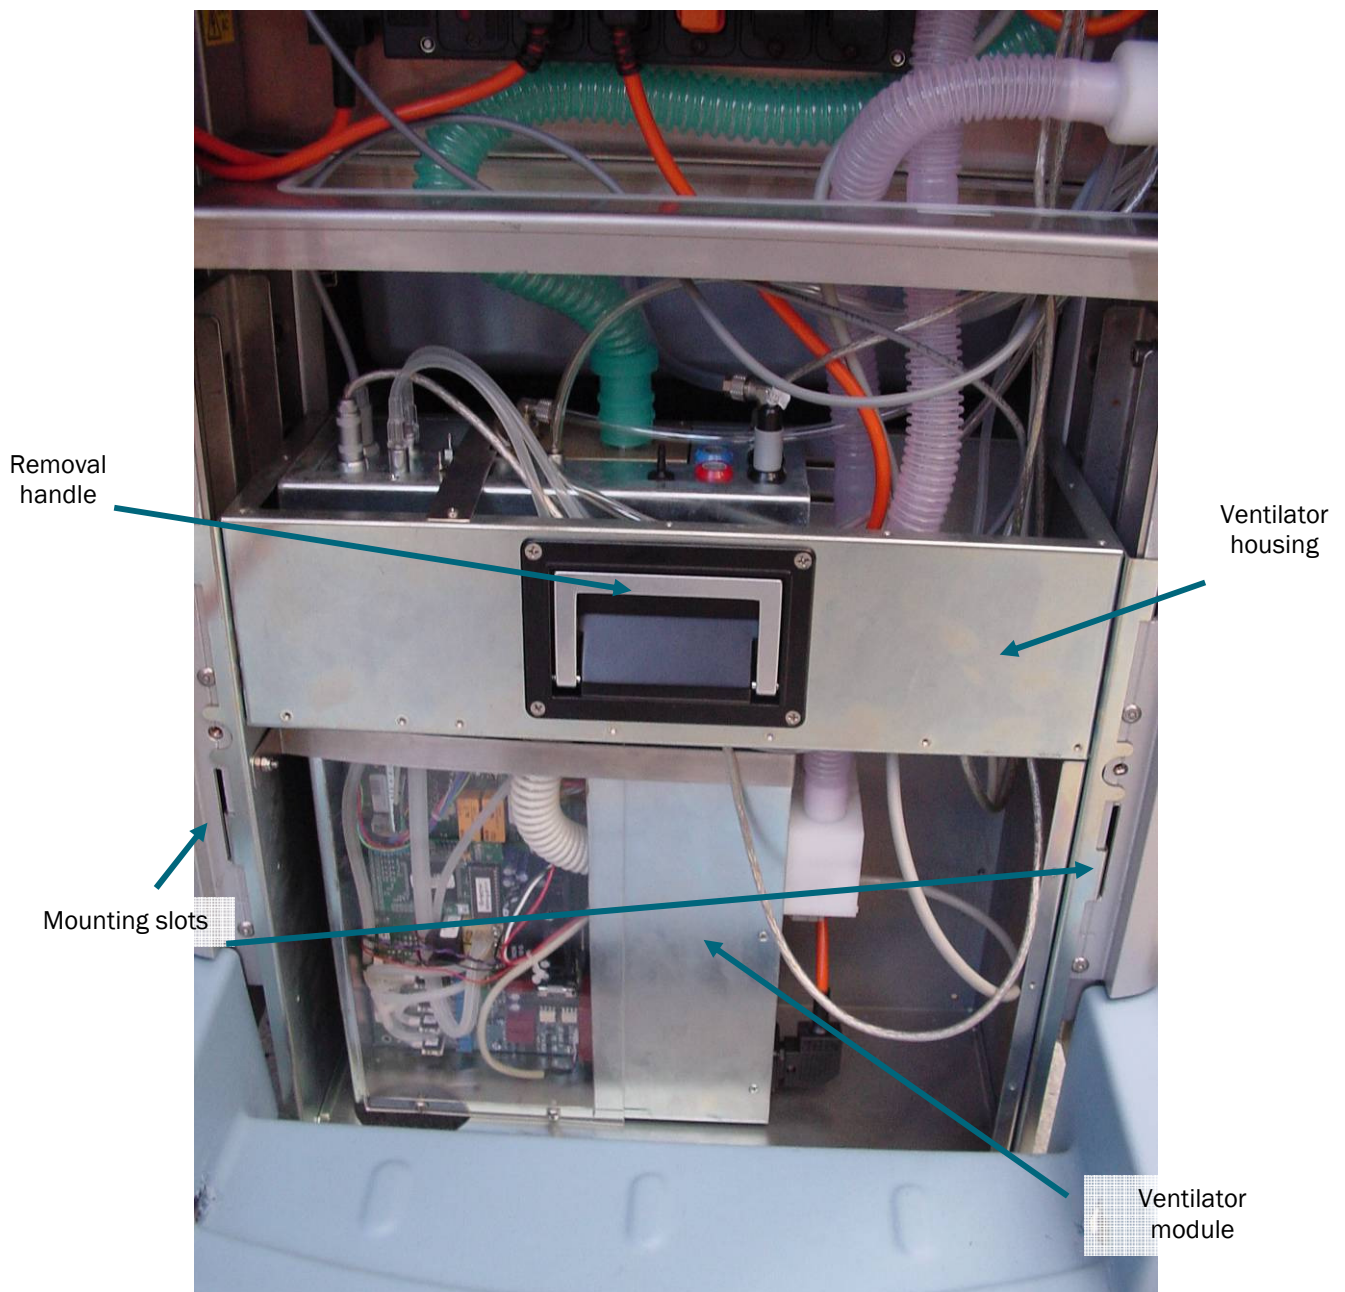

Figure 10: Ventilator housing
5. The ventilator is mounted in a removable case with handle as shown in Figure 10. Grasp the ventilator handle in one hand and steady the lower half of the ventilator housing case with the other hand.